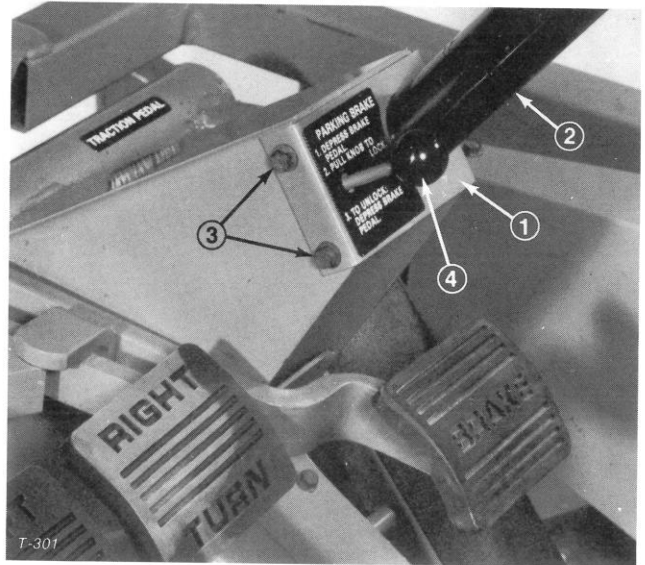

Figure 3
5. Slide steering column support onto steering post and parking brake rod (Fig. 3). Mount the support on top of steering tower with four self-tapping screws (1/4 - 20 x 5/8 in. - 16 mm).